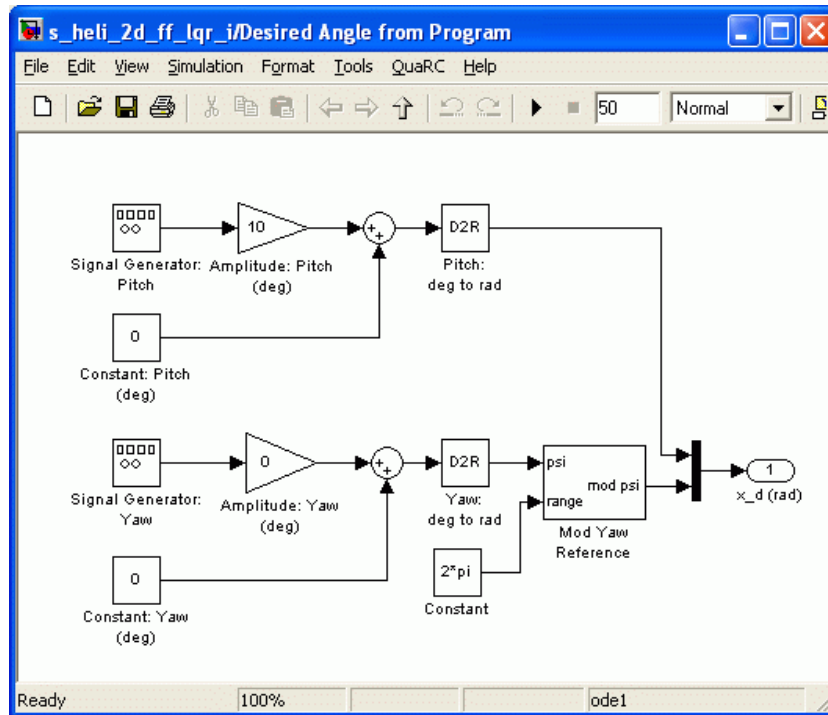

Figure 5.8: Desired Angle from Program subsystem
9. Open the subsystem labeled *Desired Angle from Program*, shown in Figure 5.8, below